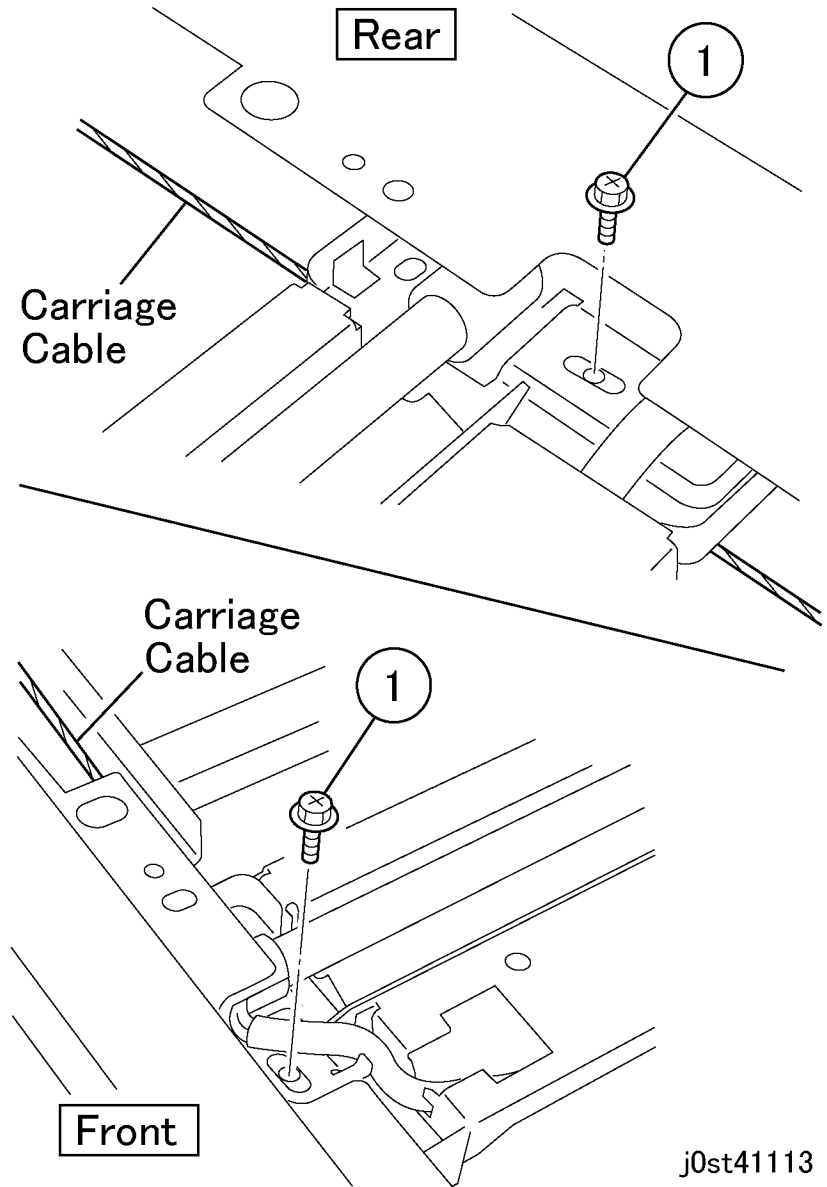

Figure 3 Unfastening the Full Rate Carriage
6. Unfasten the Full Rate Carriage from the Carriage Cable (Figure 3).